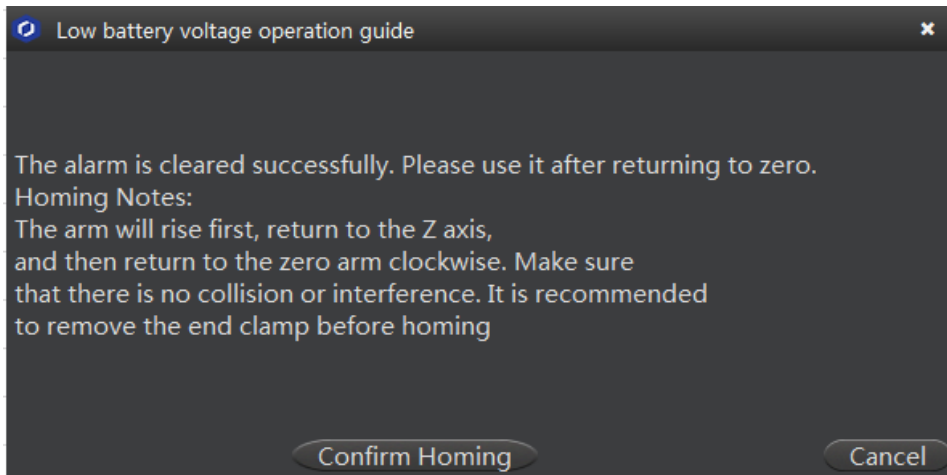

Figure 7.5 Start homing
Step 4 Click **Confirm Homing**, as shown in Figure 7.5.